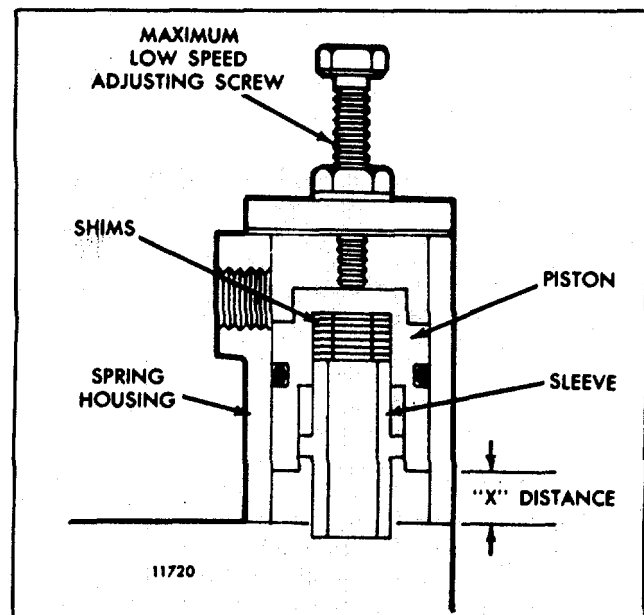

FIG. 9 - Current Dual Range Governor (Top View)
CURRENT DUAL RANGE GOVERNOR (Fig. 9)
- d. Note the distance ("X" distance, Fig. 9) the piston is from the bottom of the spring housing when it is against the low maximum speed screw, then remove the sleeve from the piston.